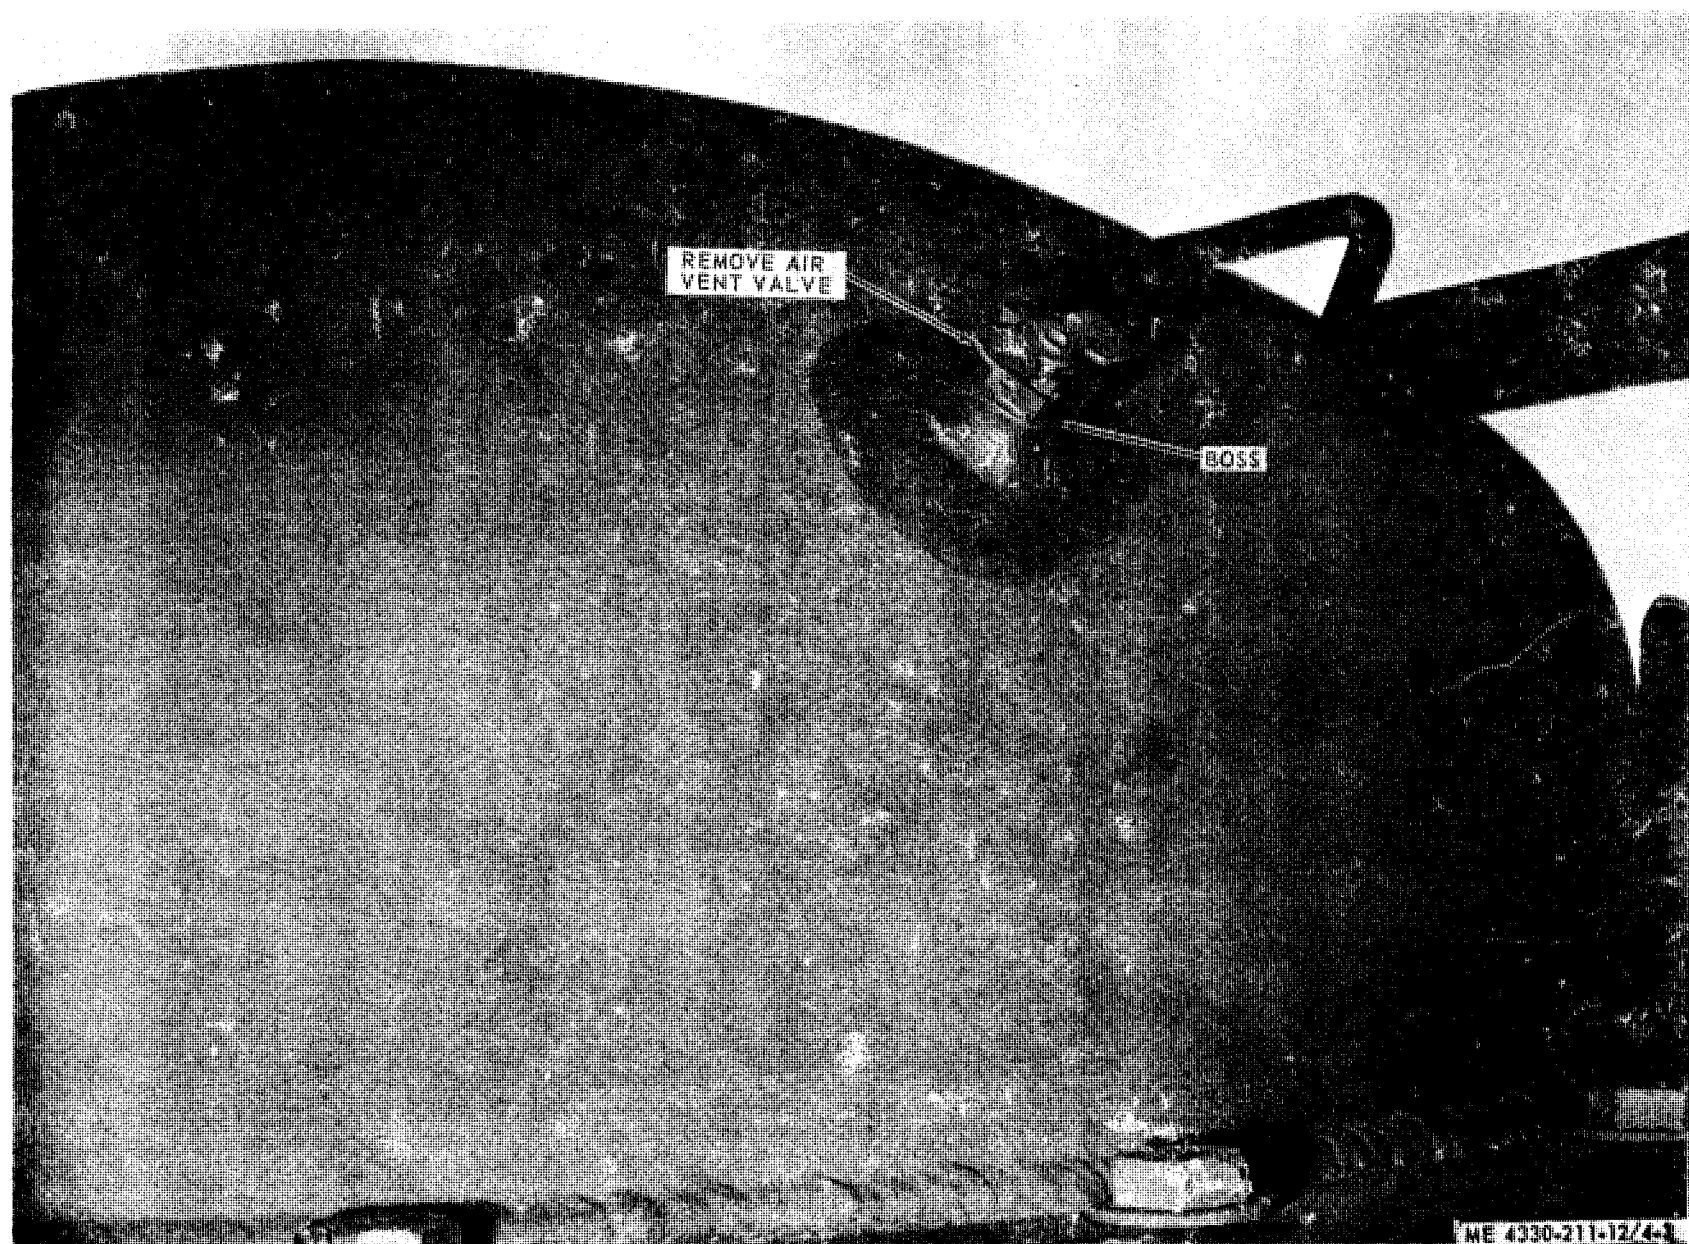

Figure 4-3. Air vent valve.
a. Removal. Refer to figure 4-3 and remove the air vent valve.